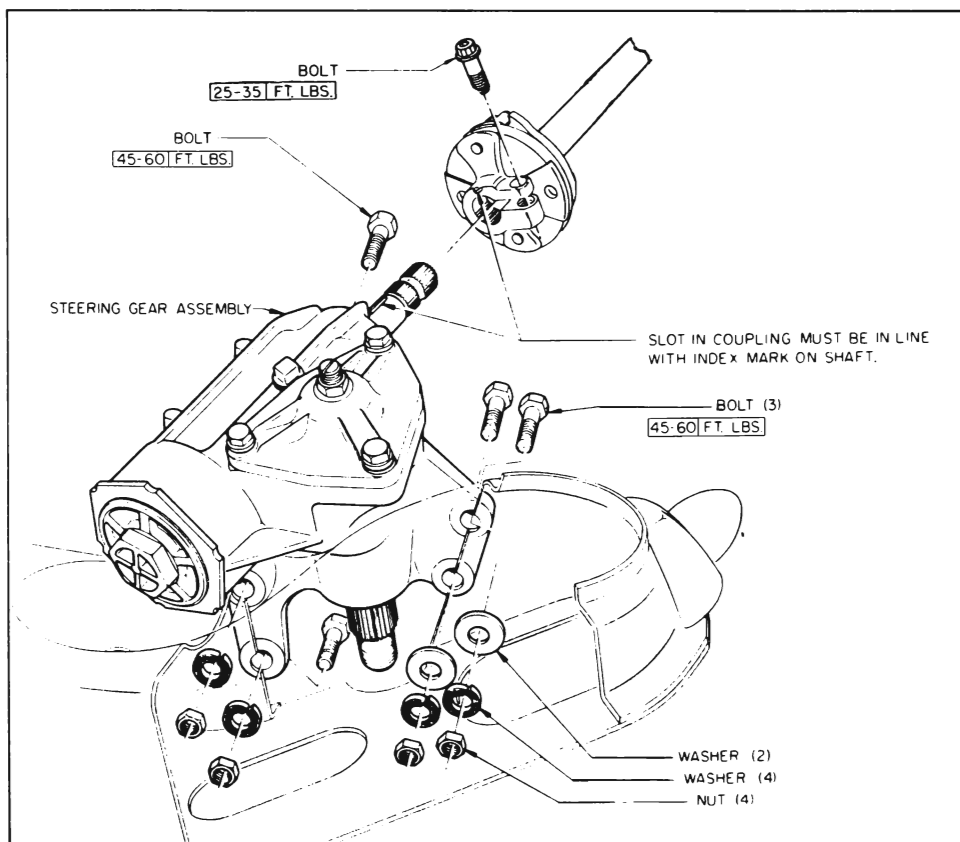

Figure 8-10—Manual Steering Gear Installation
1. Remove lower coupling pinch bolt. See Figure 8-10.